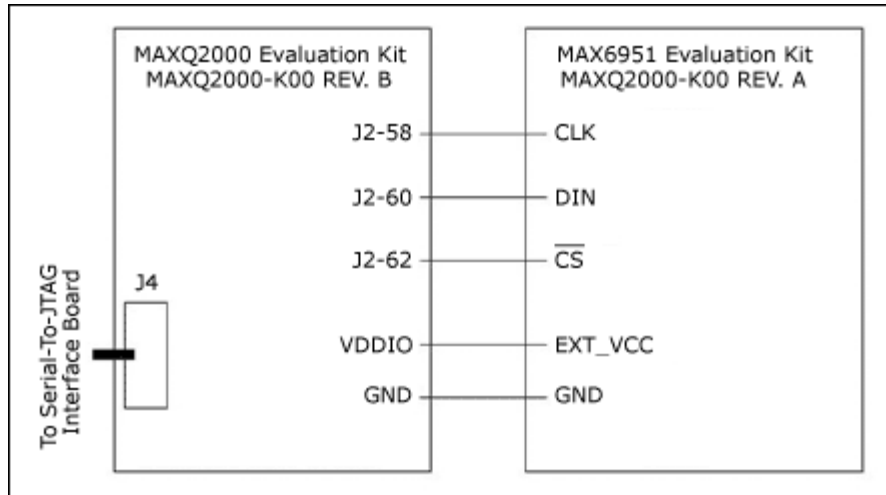

Figure 1. Schematic for the connection between the MAX6951 EV Kit and the MAXQ2000 EV Kit.
3. Connect the two EV kits as shown in **Figure 1**.